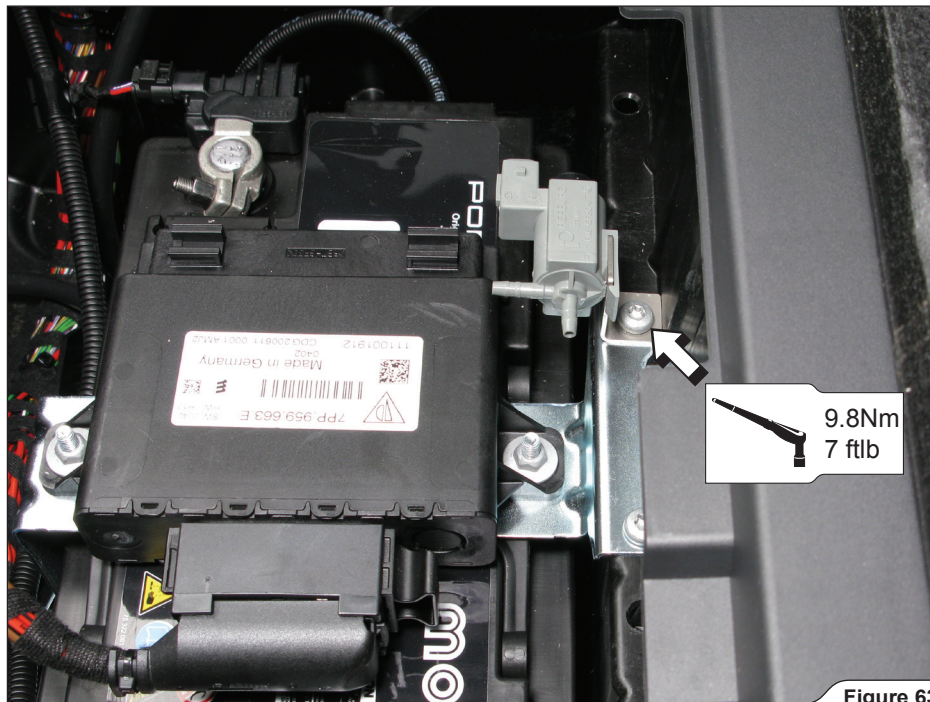

Figure 63
9. Assemble the electromagnetic valve with bracket (both from Akrapovic installation kit) and bolt the bracket onto the chassis, using original bolt, as shown (**Figure 63**).